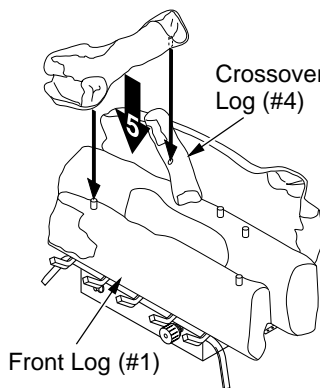

Figure 31 - Installing Crossover Log (#5) (CCL3930NTA Shown)
5. **For CCL3924NT and CCL3930NTA Only:** Locate pin and hole on the bottom of crossover log (#5). Slide the pin into the hole located in crossover log (#4). Slide the hole onto the pin on front log (#1). See Figure 31.